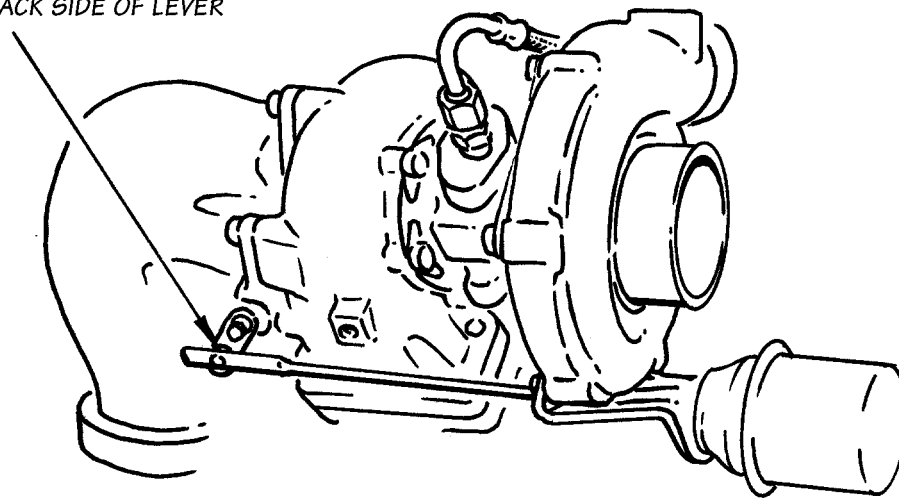

FIGURE 2
6. Install high boost lever, provided in kit, over pin on wastegate control rod (see Fig. 2). Install "E" clip on pin.
7. Attach high boost lever with wastegate control assembly to original wastegate lever on turbo outlet elbow. Use a $5/16$ -24 x $3/4$ hex bolt, $5/16$ AN washer, $3/16$ long spacer, and $5/16$ -24 lock nut as shown in Figure 2. Make sure end of bolt and lock nut do not rub on outlet elbow when lever is rotated.